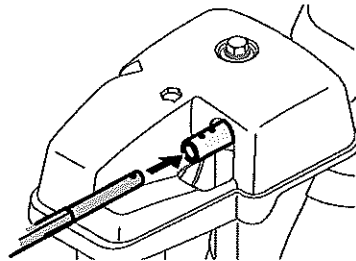

Figure 2-14
2. Insert chute control rod into chute control head. Push rod as far into chute control head as possible, keeping holes in rod pointing upward. See Figure 2-14.